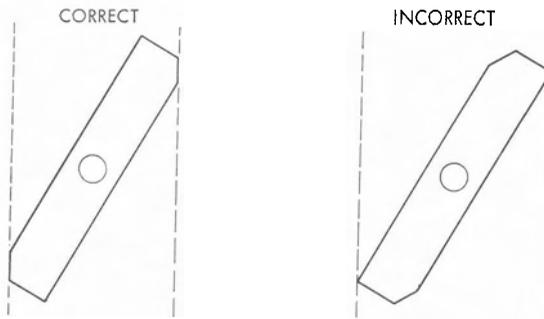

Figure 30. Prolay Armature, Reassembly
1. Armature bevels line up with neutral pole pieces (upper right and lower left). See Figure 30.
4. Make certain that the two beveled corners of the armature go to the neutral pole piece. See Figure 30.